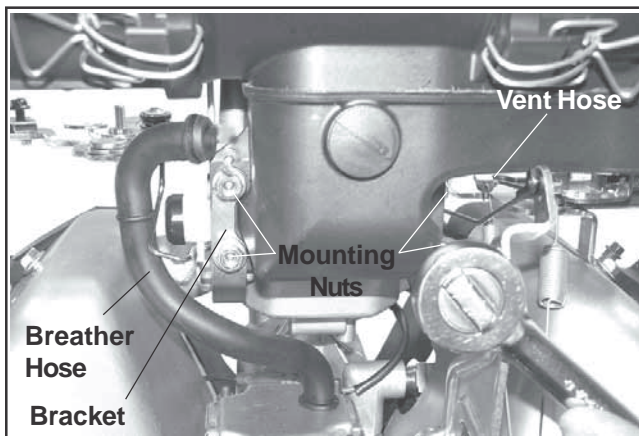

Figure 8-8. Air Cleaner Mounting Details.
2. Remove the four hex flange nuts, ground lead, and choke return spring bracket from the mounting studs. See Figure 8-8.